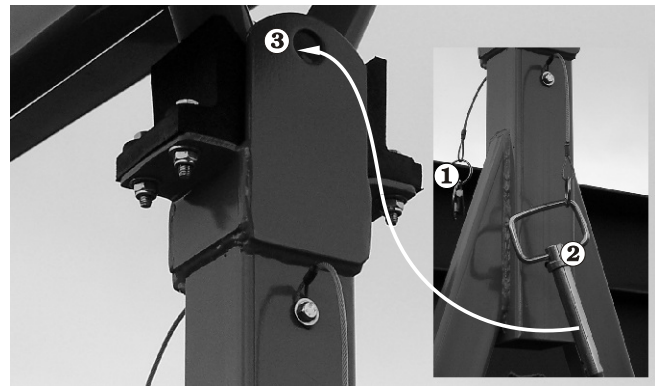

Figure 9.5 - Boom Lock Pin
6. The boom lock pin must be removed before operating the booms (see Figure 9.5). Remove the pin keeper ① from the pin and then remove the pin ② from the cradle ③.